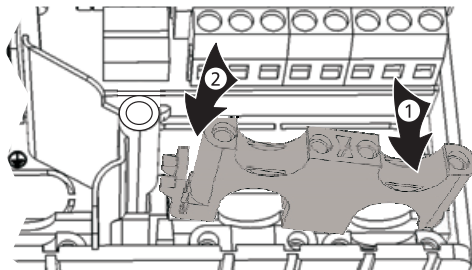

Fig. 4: Inserting the right plastic link
1. Insert the right plastic link with the latching protrusion first ① (Fig. 4).
2. Press the other side of the plastic strip down ②, until the spring clamp latches into place.